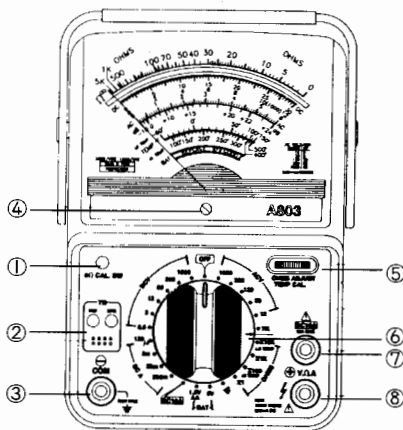

FIG. 1. FRONT PANEL IDENTIFICATION
- 2) Preliminary Adjustments Controls and Jacks (FIG. 1.)
### 3) Function Switch Description : (Fig. 1.)